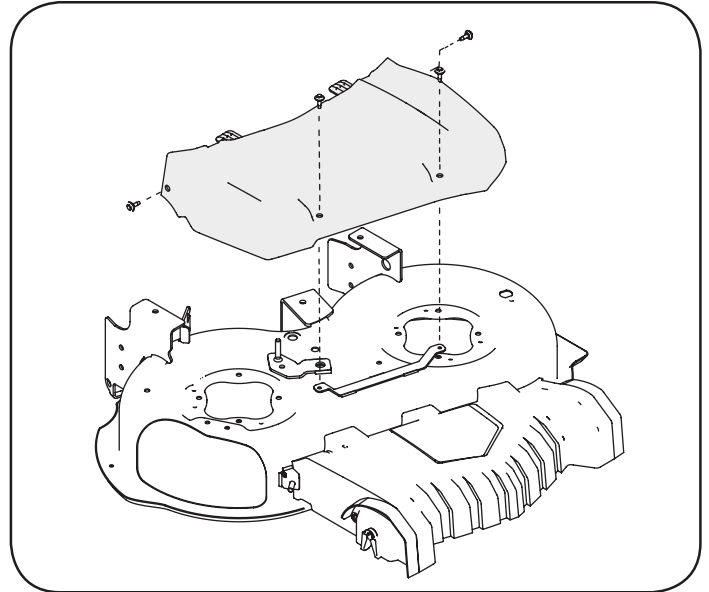

Figure 14
**NOTE:** Drive belt assembly not shown in figure 14 for clarity.